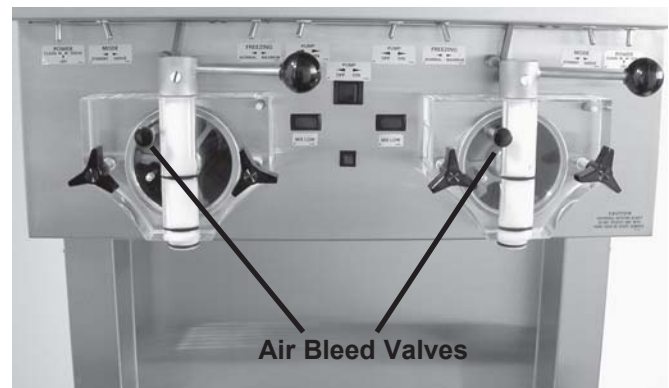

Figure 12. Air Bleed Valves
- Place the mix pump switch in the ON position and open air bleed valve on the front door by pushing valve in and holding. Figure 12.
- D. Place the mix pump in the SERVE position. Open spigot and pump liquid mix through the freezer. When empty, place CLEAN-OFF-SERVE switch and the mix pump switches in the OFF position. Figure 12.